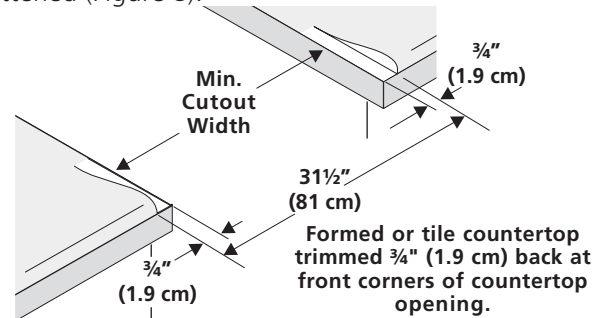

Figure 8
- **Formed front-edged countertops** must have molded edge shaved flat $\frac{3}{4}$ " (1.9 cm) from each front corner of opening (Figure 8).
- **Tile countertops** may need trim cut back $\frac{3}{4}$ " (1.9 cm) from each front corner and/or rounded edge flattened (Figure 8).